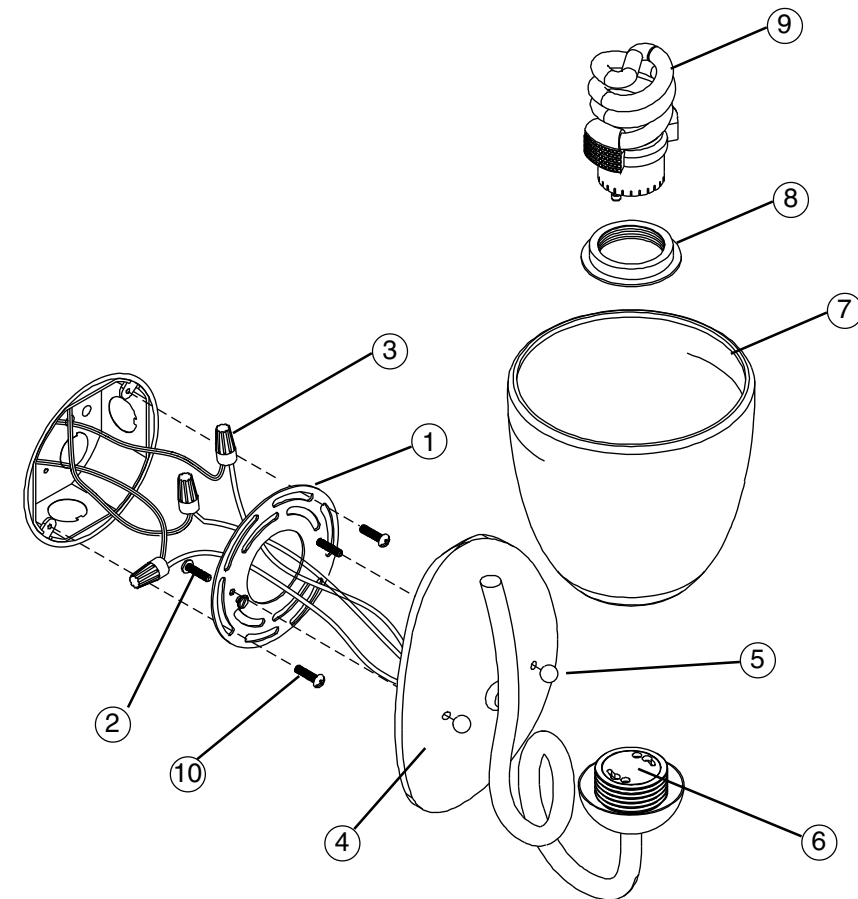

Figure 1
4. **With the power turned off, hold the fixture firmly** and connect the ground wire from the fixture to the bare copper ground wire from the junction box using a Wirenut (3). *(If house wiring does not include a ground wire, consult your local electrical code for approved grounding methods).* **See Fig. 1.**
5. **Use Wirenuts (3)** to connect black fixture wire to the black power supply wire and white fixture wire to the white power supply wire. **See Fig. 1.**
7. **Position the Backplate (4)** over the Screws protruding from the Mounting Plate (1) and secure fixture with Finials (5).
8. **To Install Glass Shade (7)**, unscrew Lock Ring (8) from the Socket (6). Place Glass Shade (7) over the Socket (6) and reinstall the Lock Ring (8). **See Fig. 1.**
5. **Use Capuchones de Alambres (3)** para conectar el alambre negro del luminario al alambre negro de suministro de electricidad y el alambre blanco del luminario al alambre blanco de suministro de electricidad. **Vea Fig. 1.**
7. **Coloque la Placa Trasera (4)** sobre los tornillos que sobresalen de la parte curvada de la Placa de Montaje (1) y asegure el luminario con Finials (5).
8. **Para Instalar la Pantallas de Cristal (7)**, desenrosque el Anillo de Cierre (8) del Enchufe (6). Coloque la Pantalla de Cristal (7) sobre el Enchufe (6) e instale de nuevo el Anillo de Cierre (8). **Vea Fig. 1.**